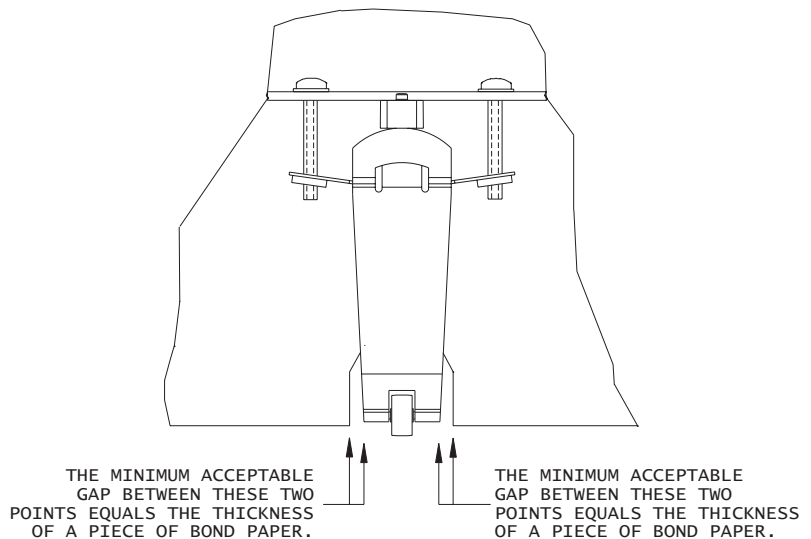

Figure 3-20. Test for Minimum Acceptable Gap.
2. a minimum gap still remains between all Pinch Roller Supports and the Y-Arm. The test for acceptable gap is that a piece of bond paper can be inserted through the gap without interference; that is, the gap must be at least the thickness of a piece of bond paper. See Figure 3-20. Avoid adjusting the Pinch Roller Supports so that they touch the Y-Arm's cut outs.